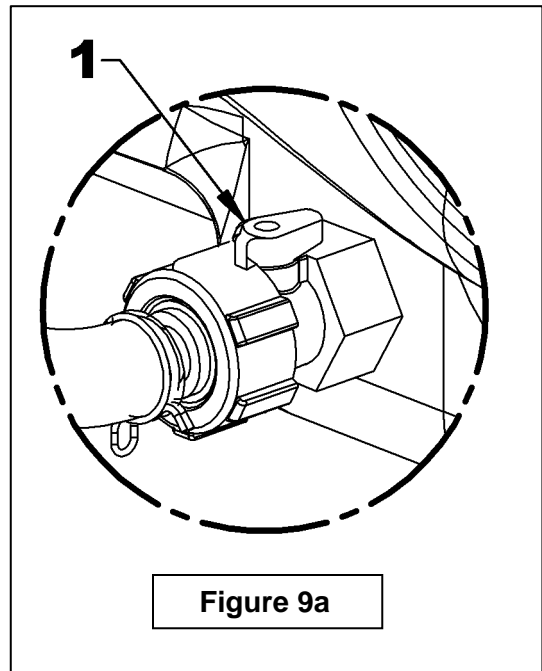

Figure 9a
4. **Figure 9a:** Open the valve at the tank output port (item 1).